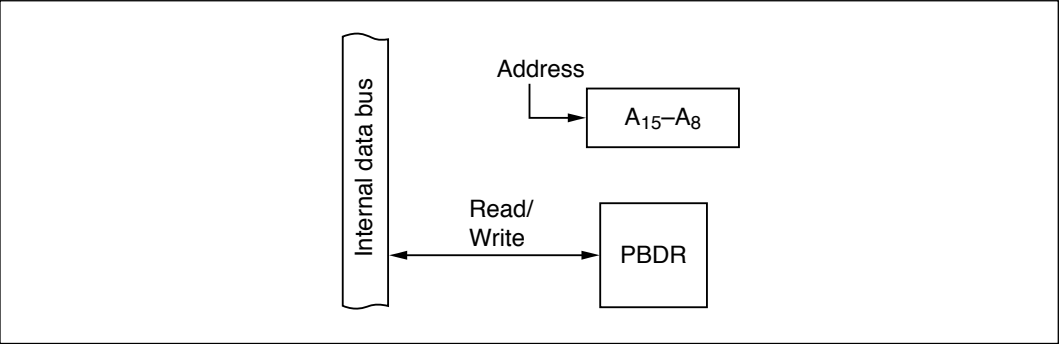

Figure 9-76 Address Bus (Modes 1 to 6)
(4) Address Bus (All Pins: Modes 1 to 6): Figure 9-76 shows a block diagram illustrating the address-bus function. Table 9-56 indicates register read/write data. When port B is used as an address bus, values written in the port B data register (PBDR) have no effect on the bus lines. When read, PBDR returns the value written in PBDR.